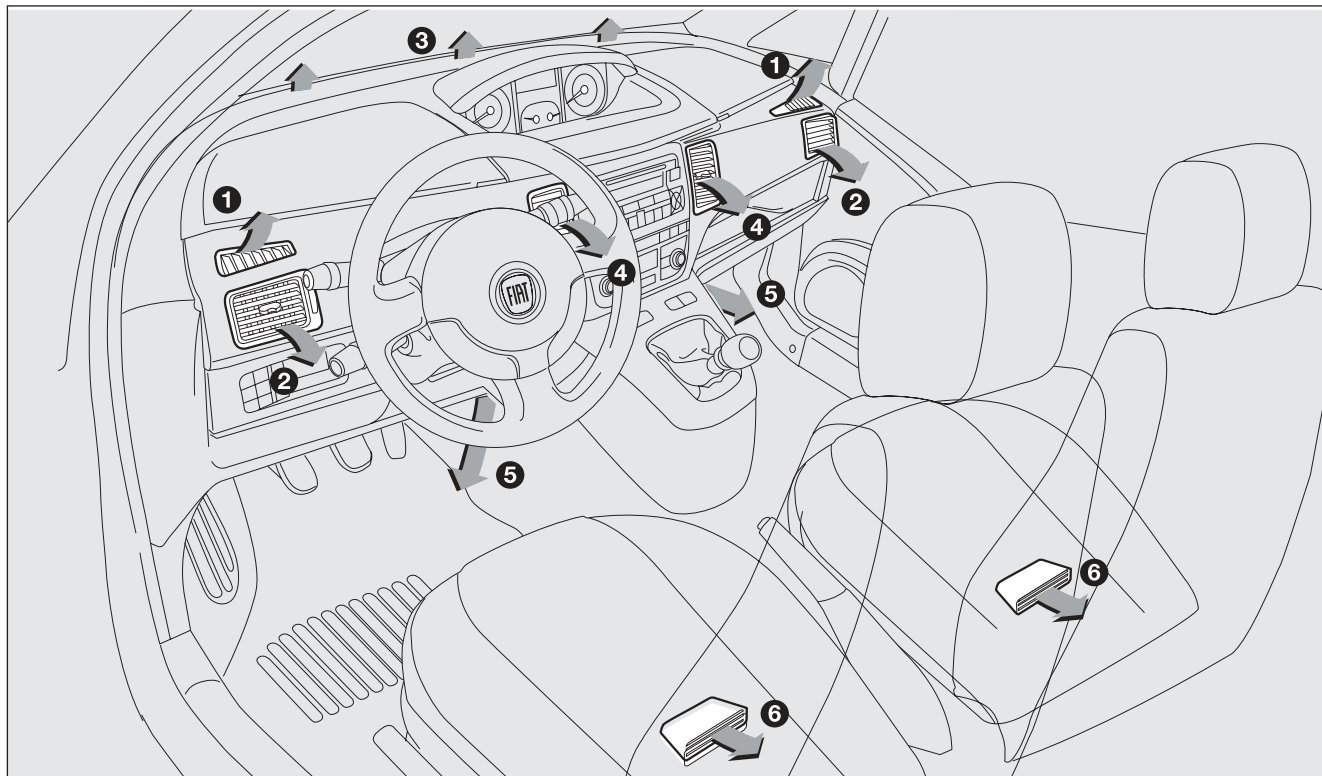

fig. 60
-  air flow from centre and side vents (2) and (4) **fig. 60**;
-  air flow from centre and side vents (2) and (4) and downwards (5) and (6) **fig. 60** (bilevel function);
-  air flow downwards (5) and (6) **fig. 60**;
-  air flow downwards (5) and (6) **fig. 60** and also to the windscreen (3);
-  to demist and defrost windscreen (3) and front side windows (1) **fig. 60**.
- ☐ open completely central (4) and side (2) **fig. 60** vents;
- air flow from central vents and side outlets (2) and (4) **fig. 60**;
- air flow from centre and side vents (2) and (4) and downwards (5) and (6) **fig. 60** (bilevel function);
- air flow downwards (5) and (6) **fig. 60**;
- air flow downwards (5) and (6) and also to the windscreen (3) **fig. 60**;
- to demist and defrost windscreen (3) and front side windows (1) **fig. 60**.